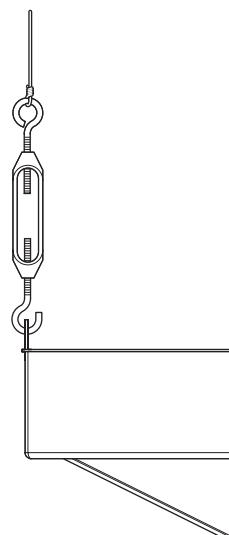

Figure 7 – Turnbuckle Installation
- Insert the "hook" end of each turnbuckle into the appropriate mounting lugs on the Ceiling Enclosure. See *Figure 7 – Turnbuckle Installation*.
- Insert the loose end of each suspension wire through the loop end of its associated turnbuckle, loop the end upward, and wrap *at least five turns* around the main suspension wire. Cut off any excess from the end of each suspension wire. See *Figure 7 – Turnbuckle Installation*.